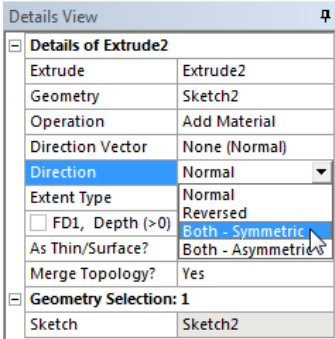

Figure 3-45 Selecting the **Both-Symmetric** option from the **Direction** drop-down list
- 25. Select the **Both-Symmetric** option from the **Direction** drop-down list in the **Details View** window, refer to Figure 3-45; the same amount of material is removed from both sides of the sketch.
In Figure 3-45, the display of plane has been turned off to see the cutout feature clearly.